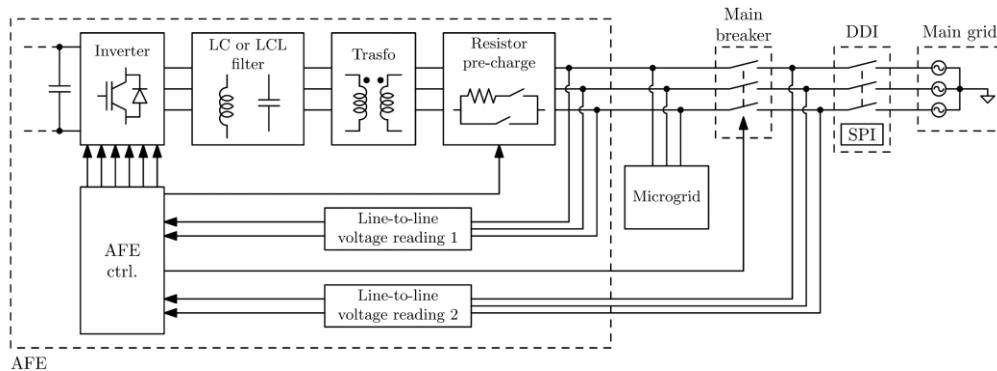

Figure 2 - System layout, DDI block is optional
- **Line-to-Line Voltage Reading for Grid Synchronization:** To manage proper synchronization between the microgrid and the main grid, the **AFE controller** needs to monitor the **line-to-line voltages** both **upstream** and **downstream** of the **main breaker**. This ensures that the AFE inverter can operate correctly in both grid-connected and islanded modes. A proper **Voltage Sensing Configuration (4V0016 and 4S0016.3) is then mandatory**. The voltage reading chain (shown in Figure 2) should be configured and applied to both the upstream and downstream voltage sensing points, ensuring that the AFE controller has accurate voltage data for grid synchronization and mode transitions.